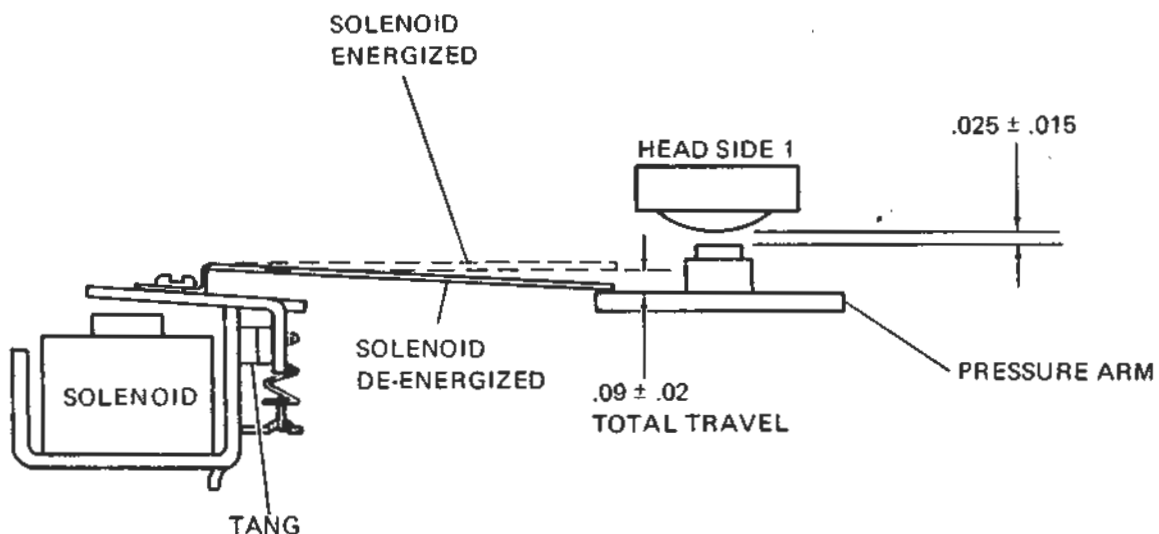

Figure 2-6. Head Load Check and Adjustment (Side 1)
- f. If solenoid paddle displacement is incorrect adjust the tang adjacent to the solenoid return spring. (Figure 2-6.)